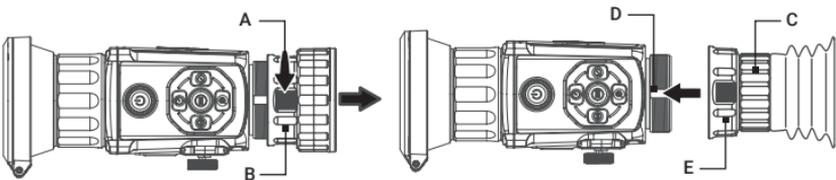

FIGURE 2-9. EYEPIECE REPLACEMENT
1. Rotate the fixing ring (Figure 2-9, A) of clip-on output lens (B) counter clockwise to remove it.
2. Align the optional monocular eyepiece (C) with the grooves (D) of device, and rotate the fixing ring of eyepiece (E) clockwise to tighten it.